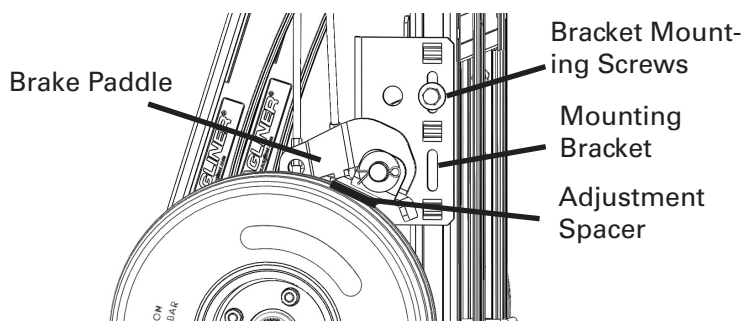

Figure 10
3. Place an adjustment spacer (304073) between each of the wheels and their respective brake paddles as illustrated in Figure 10.